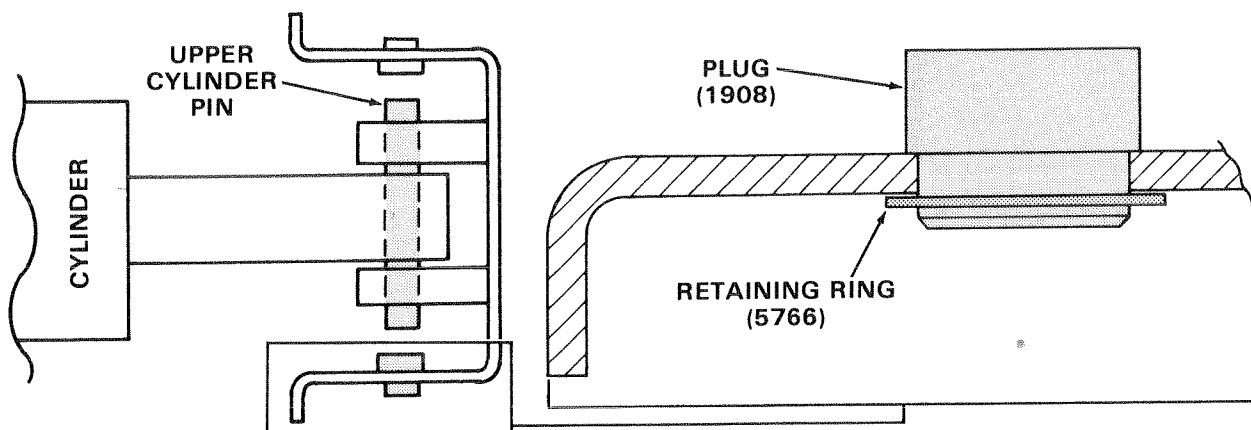

Figure 31. Top Cylinder Pin.
12. Grease top cylinder pin before reinstalling new cylinder, Figure 31.